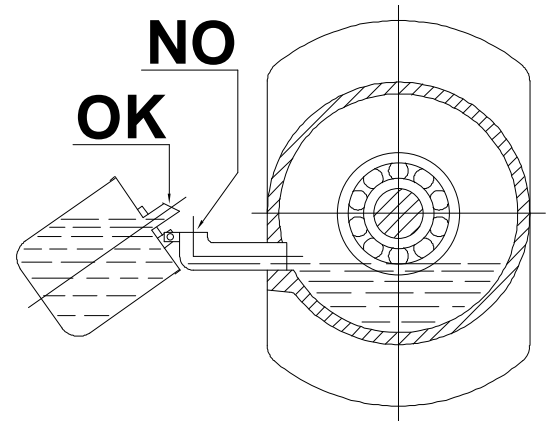

Fig. 24
- fill the oil-filler pouring oil directly into the oil-cruet and NOT into the elbow (see fig. 24)
The following fillings should be done pouring oil directly into the cruet and NOT into the elbow of the oil-filler or bearing frame plug (see fig. 24).